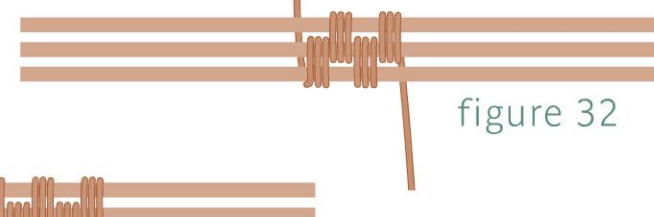

figure 32
- 6 Coil the weaving wire around the second and third frame wires three times. On the third coil, bring the weaving wire behind all three frame wires (Figure 32).